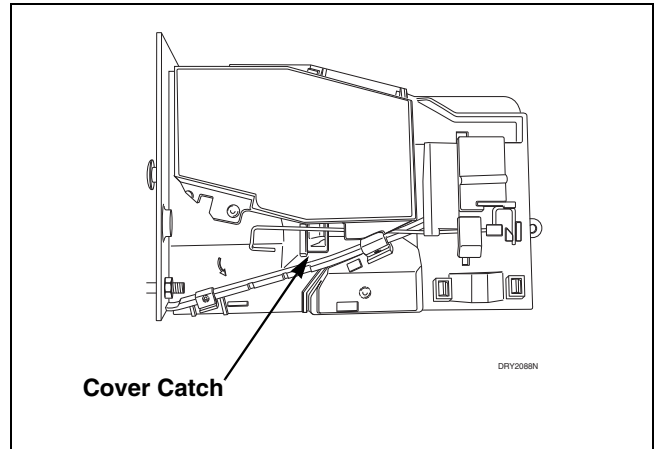

Figure 4
- (1) Move tension spring downward until cover catch is free. Refer to *Figure 4*.
- (15) Close coin drop cover.
- (16) Move tension spring over cover catch. Refer to *Figure 4*.